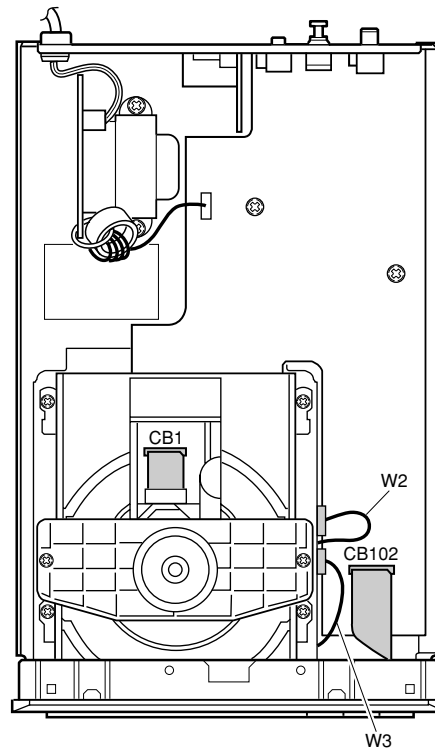

Fig. 2
- Remove a connector (CB102) in Fig. 2.
- Remove a connector (CB1) in Fig. 2.
- Remove W2 and W3 from the CD Mechanism in Fig. 2.